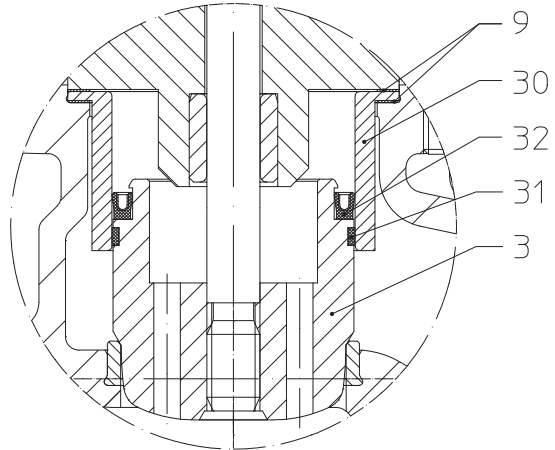

Fig. 28: Pressure balanced plug
- Remove plug as described in item 7.2.
- Prise worn piston seal (pos. 32) out of groove in plug with suitable tool (e.g. screwdriver).
- Insert new piston seal (pos. 32), taking care that it is in the correct position (refer to Fig. 28).
- Replace guide ring (pos. 31).
- Clean sliding surface of guide bush (pos. 30); smooth with fine abrasive if necessary.
- Replace 2 gaskets (pos. 9).
- Secure with nuts (pos. 11) and tighten them crosswise.